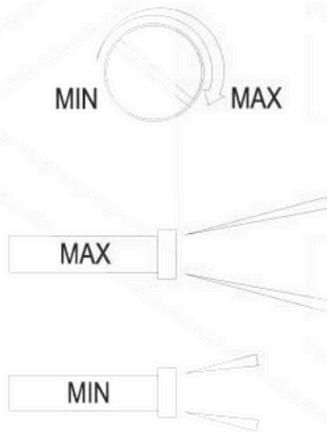

Fig.5a
- b. According with the reflection distance, choose an altering screw driver in the accessory package to adjust the knob on the photoelectric switch to increase or decrease the distance (see **Fig.5a**).